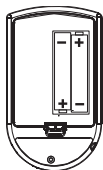

Figure 7
Open the battery cover located on the backside of the meter. Insert two (2) AAA Alkaline batteries and align them properly. When batteries are installed correctly, the meter will turn on. See Figure 7.